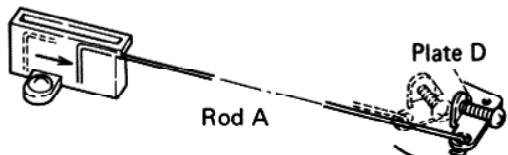

Fig. 10
- As record playback proceeds and the tonearm approaches the inner record grooves, rod A (directly coupled to plate D) moves in proportion to the amount of tonearm movement (Fig. 10).